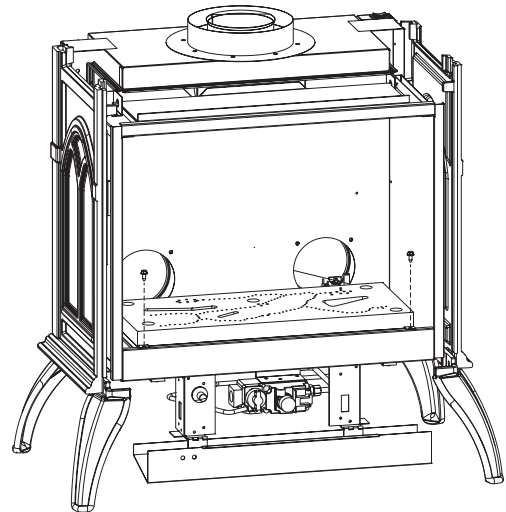
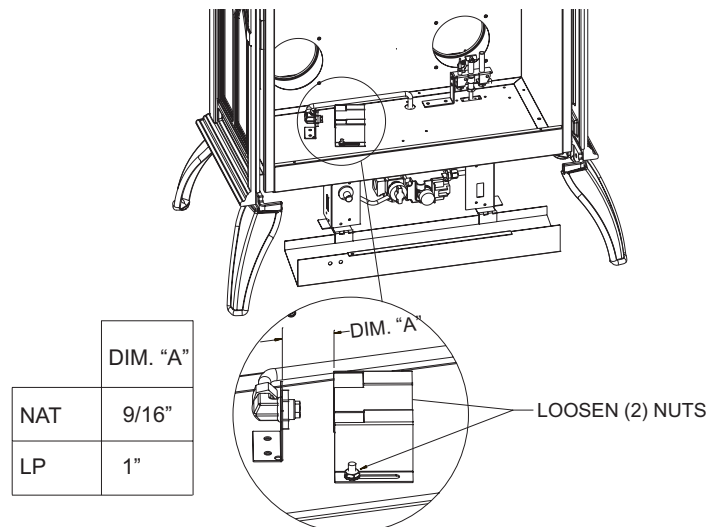

Figure 12
Figure 13
6. Remove the burner by removing the (2) screws at the front of the burner as shown in figure 12.
8. Loosen the (2) nuts on the air shutter shown in figure 12 to adjust the air shutter. Figure 13 call-out demonstrates the proper locations for NAT gas. LP Air shutter is not adjustable.
9. Tighten the (2) nuts back down locking the air shutter in place. Be sure that the air shutter is the same distance from the burner orifice on both sides of the air shutter for proper burner fit up.
11. Replace the (2) screws at the front of the burner shown in figure 12.